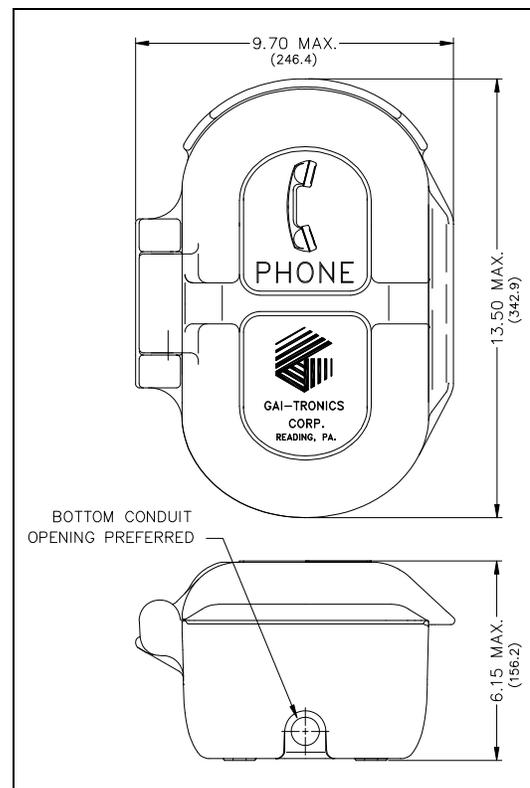

Figure 4. Model 226-001 Outline
5. Install a conduit fitting in one of the $1/2$ -inch NPT conduit entrances provided at both the top and bottom of the unit, and insert the conduit into the fitting. (The bottom location is preferred. See Figure 4.) Plug the unused access hole using the $3/8$ -inch Allen drive plug provided.